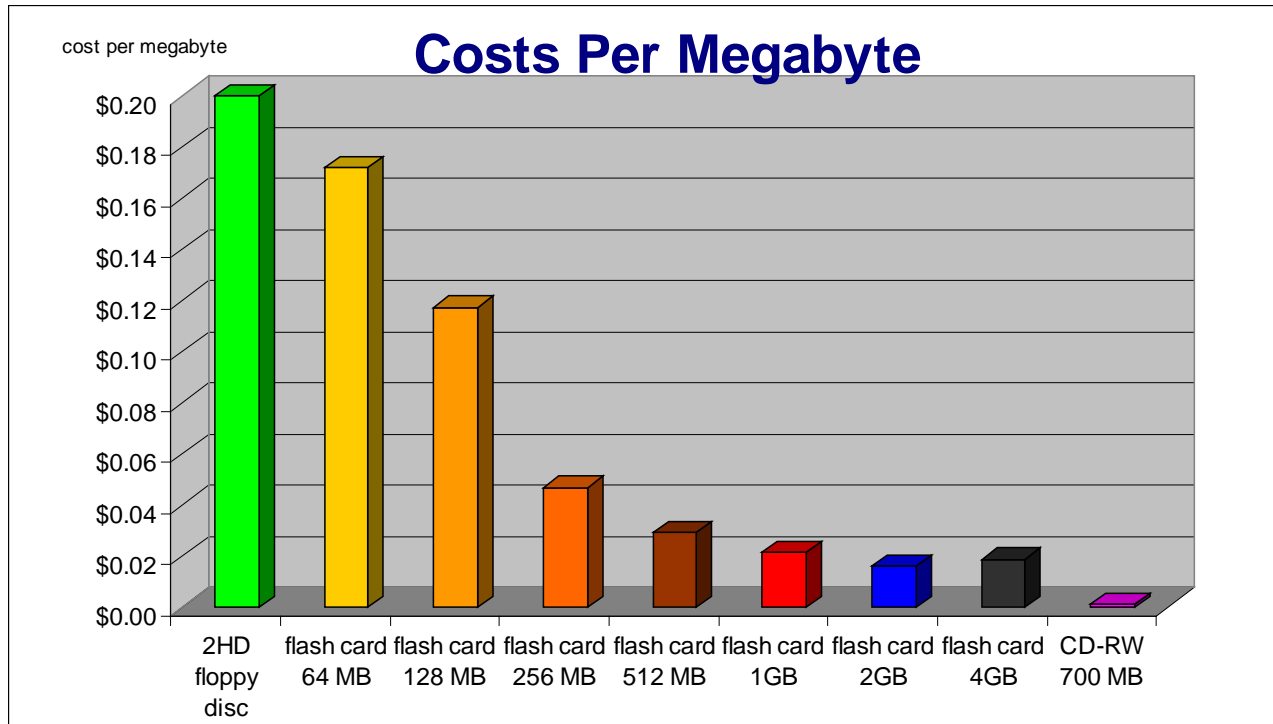

Figure 2
- low cost (Figure 2)
Flash memory offers all but the last; but as people become more accustomed to the technology and increasing demand allows production to increase also, costs will continue to decline as they have for the last few years (Figure 2).